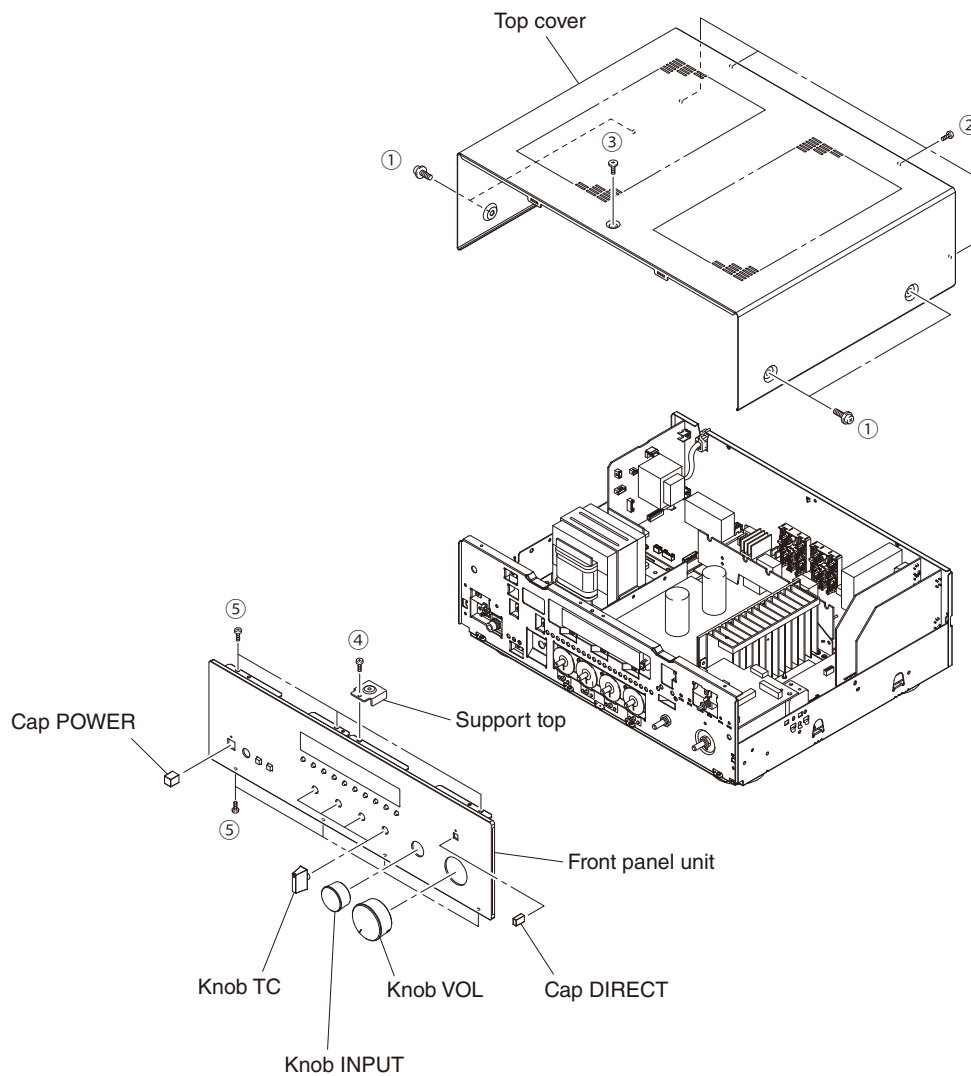

Fig. 1
- a. Remove 4 screws (①), 4 screws (②) and screw (③). (Fig. 1)
- b. Remove the top cover. (Fig. 1)
- a. Remove screw (④) and then remove the support top. (Fig. 1)
- b. Pull out the knobs and caps. (Fig. 1)
- c. Remove 7 screws (⑤). (Fig. 1)
- d. Remove the front panel unit. (Fig. 1)